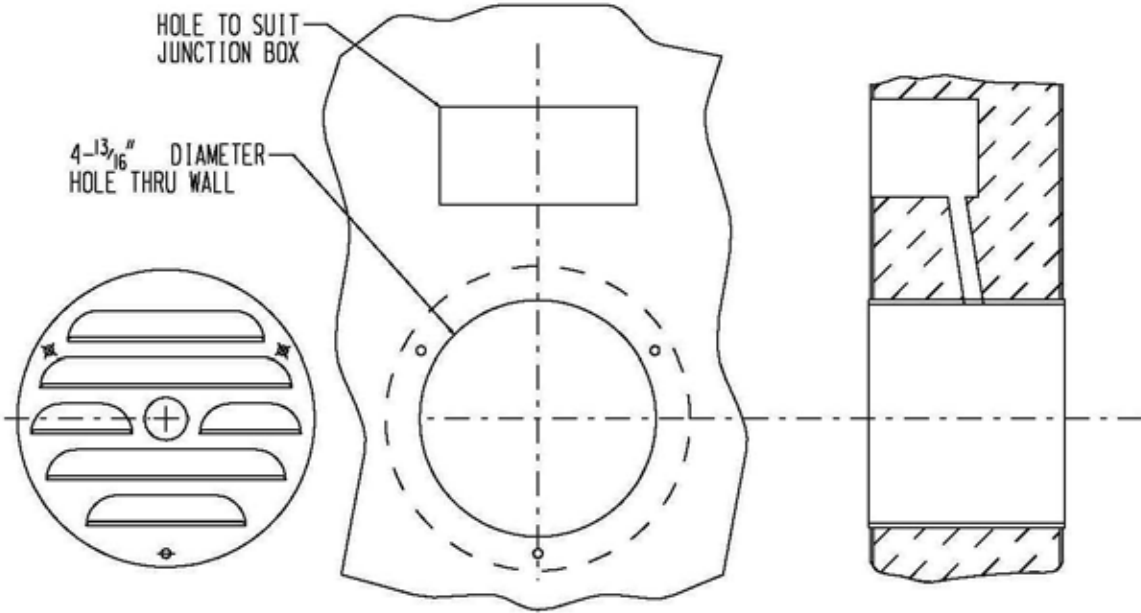

FIGURE 1
2. Mark a circle 6-1/16 inches in diameter in the selected location and mark the center. This is to be sure that the louvered covers will fit the selected location. Using the same center, cut a 4-13/16 inch diameter hole through the panel (Figure 1).
6. With the valve assembly ground screw in the bottom position, place the louver over the valve assembly with the openings facing down and line up the screw holes in the louver, the valve assembly, and the gasket. While holding the parts lined up, place the valve assembly into the sleeve (Figure 1).
7. Spot through the three (3) holes of louver and drill 1/8" holes for #8 sheet metal screws. Drive in the three (3) screws and the inside PRP assembly work is completed.
8. On the outside (warm side) of the freezer, assemble the louver, screen, flange, and gasket in the same manner as the inside parts were assembled and fasten with three (3) screws.